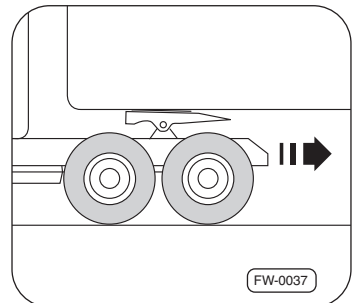

Fig. 16 · Coupling the fifth wheel tractor with the semi-trailer
9. **Slowly reverse** the fifth wheel tractor until the fifth wheel locks. The lock will close automatically ⇒ Fig. 16.